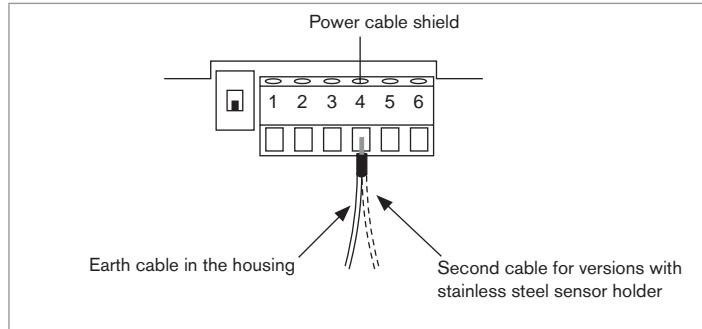

Fig. 13 : Earth connection terminal box
- Inside the housing, connect the power cable shield to connector terminal no. 4 on the electronic board (*Fig. 13*). On versions with a stainless steel sensor, a second cable comes from the sensor.